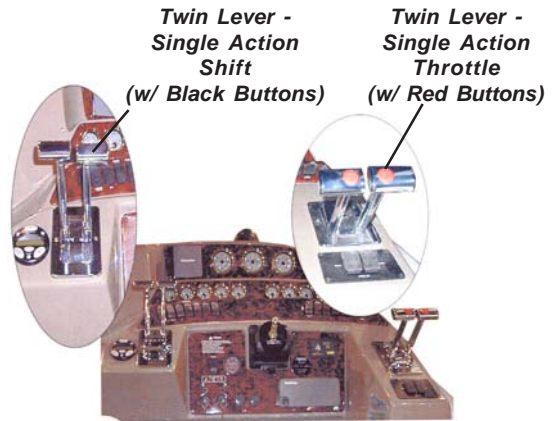

Figure A1: 378V Helm Station
1. Move the twin lever shifter to the neutral detent position. Place the twin lever throttle levers in the idle position. See Figure A1. When in the neutral detent, the detent buttons will click into place. To move the levers to the desired positions after starting you simply push or pull the shifter and throttle levers. The buttons are color coded. Black buttons represent the shifter and red buttons represent the throttles.